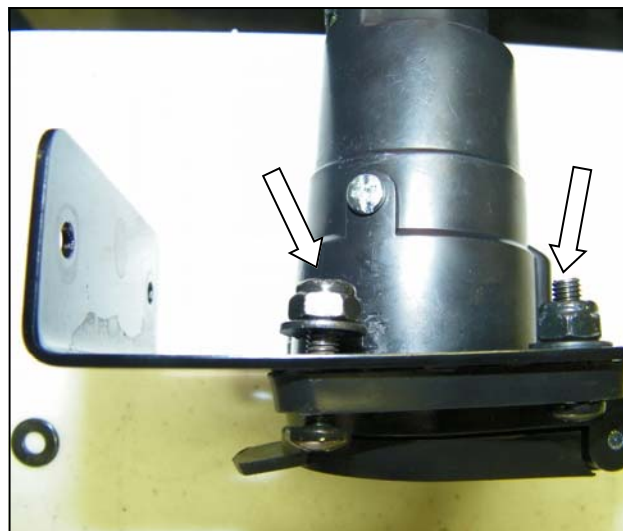

Fig. 8
8. Feed the hydraulic wire harness through the connector bracket and attach 7 pin connector (only connector shown) to bracket using 10-32 x 3/4" pan head screws and 10-32 Nyloc nuts as shown in fig. 8.